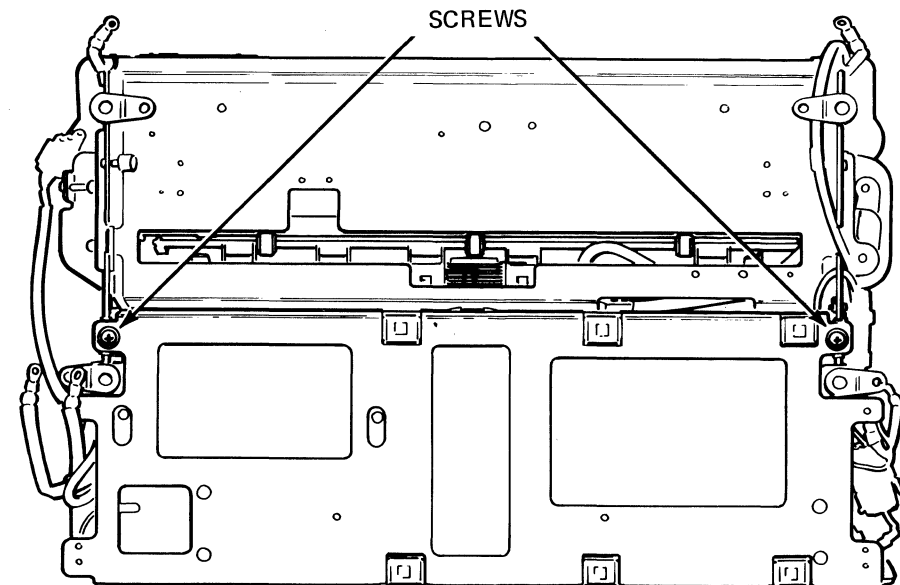

Figure 4-7 Base Chassis - Bottom View
- i. Remove the seven screws shown in Figures 4-7 and 4-8 and remove the rear of the chassis from the base.